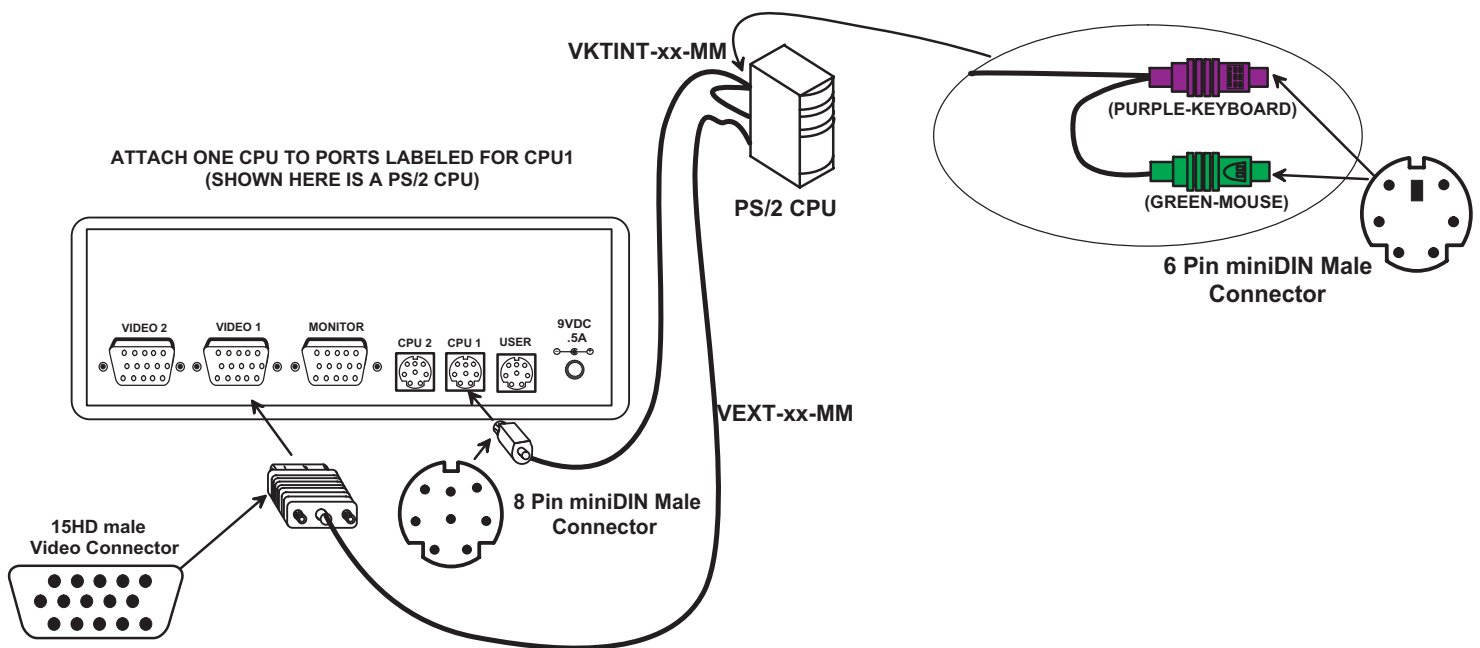

Figure 7- Connect PS/2 CPU to ST-2U
- **PS/2-** Attach a VKTINT-xx-MM cable between the keyboard and mouse ports of the CPU and a 8 pin miniDIN female "CPU x" port on the ST-2U switch. (See Fig. 7.) (Ensure that the green 6 pin miniDIN mouse connector is in the mouse port on the CPU and that the purple 6 pin miniDIN keyboard connector is in the keyboard port on the CPU.) Attach a VEXT-xx-MM cable between the video port on the CPU and a 15HD female "VIDEO x" port on the ST-2U switch.